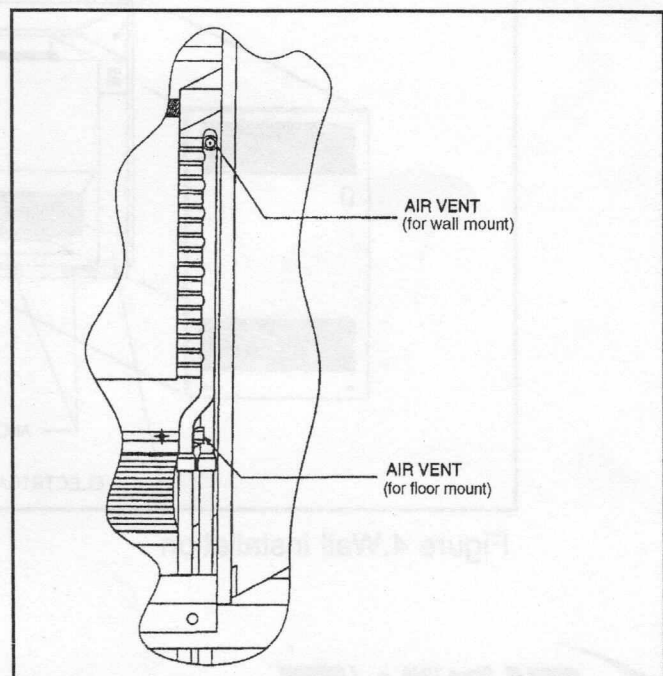

Figure 2. Air vent location
2. For units shipped with only one air vent, change the location of the air vent by interchanging the $\frac{1}{4}$ " NPT plug and the air vent, both of which are assembled to the coil header. See Fig. 2.